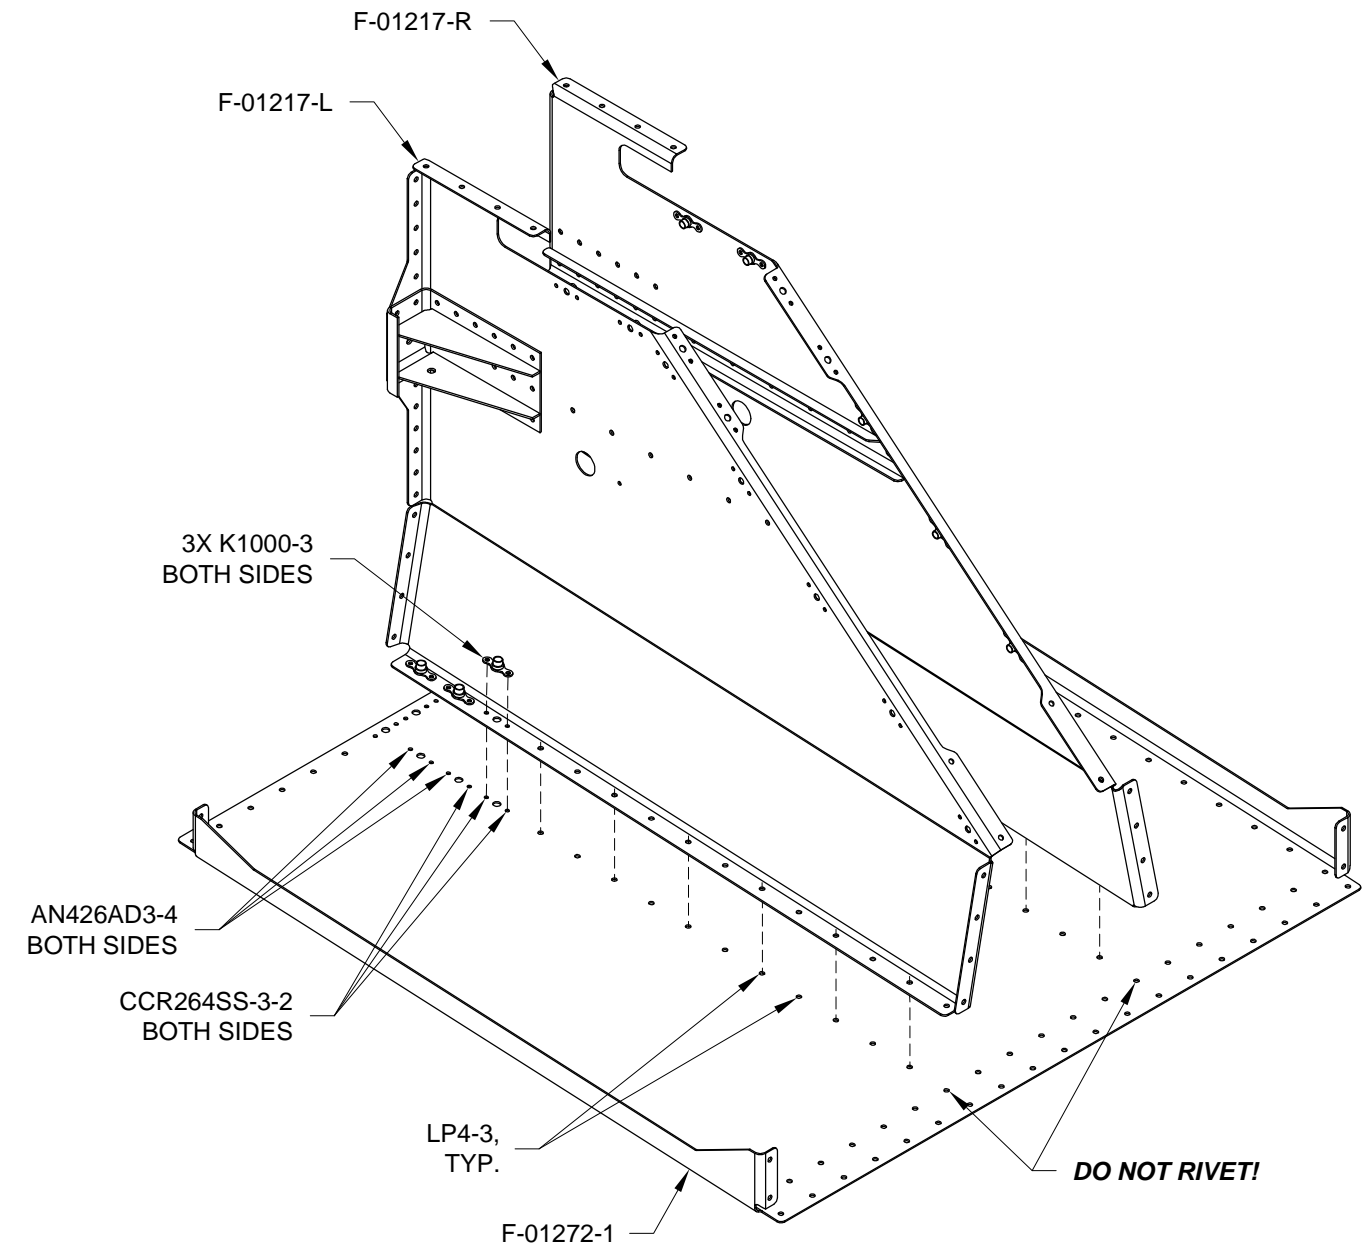

FIGURE 2: RIVETING F-01217-L & -R & F-01272-1
Step 8: Cleco then rivet F-01217-L & -R to F-01272-1 using the hardware called out in Figure 2.
Step 1: Scuff the bend radii around the aft side of the firewall perimeter. Also scuff the top flange (see "Apply Tank Sealant" call-out in Figure 2). Scuff the mating skins then clean all of the parts to provide good adhesion for a future fillet of sealant to be placed at their junction.
Step 3: Rivet together F-01201C-1, F-01217-L & -R, and F-01272-1 using the hardware as shown in Figure 2.
Rivet the seven nutplates to the bottom flange of F-01201C-1 and the fwd edge of F-01272-1 per the callouts in Figure 2.